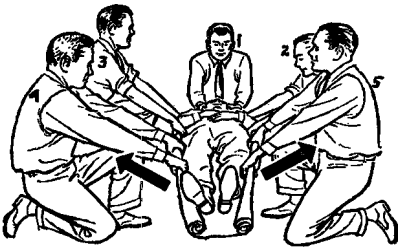

FIGURE 39. Bearers Lean Backward and Litter is Placed under Victim.
- (8) Step 8--At a signal, Nos. 2, 3, 4, and 5 lean back in opposite directions, using the back muscles and body weight. This will lift the victim 6" to 8" from the floor so that a litter can be slid underneath him. Use same procedure for victim in prone position. (See Figure 39.)